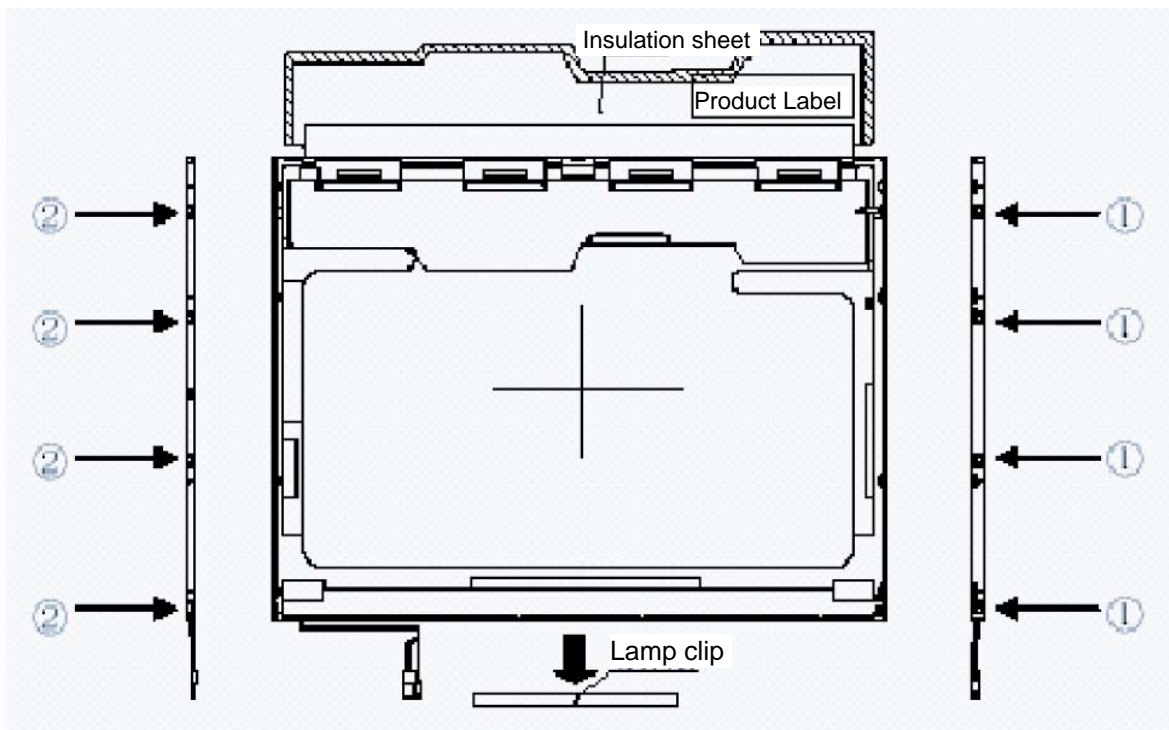

Figure 4-70 Replacing TMD fluorescent lamp (XGA) (2)
2. Spread out the insulation sheet without detaching it from the side of the bezel, as shown in Figure 4-70.
3. In the order (1) and (2) shown in Figure 4-70, remove the screws from the left- and right-hand sides of the module.